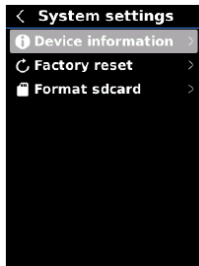

Fig. 22
2. Press the $\wedge$ and $\vee$ buttons to scroll through the list of parameters (Fig. 22).